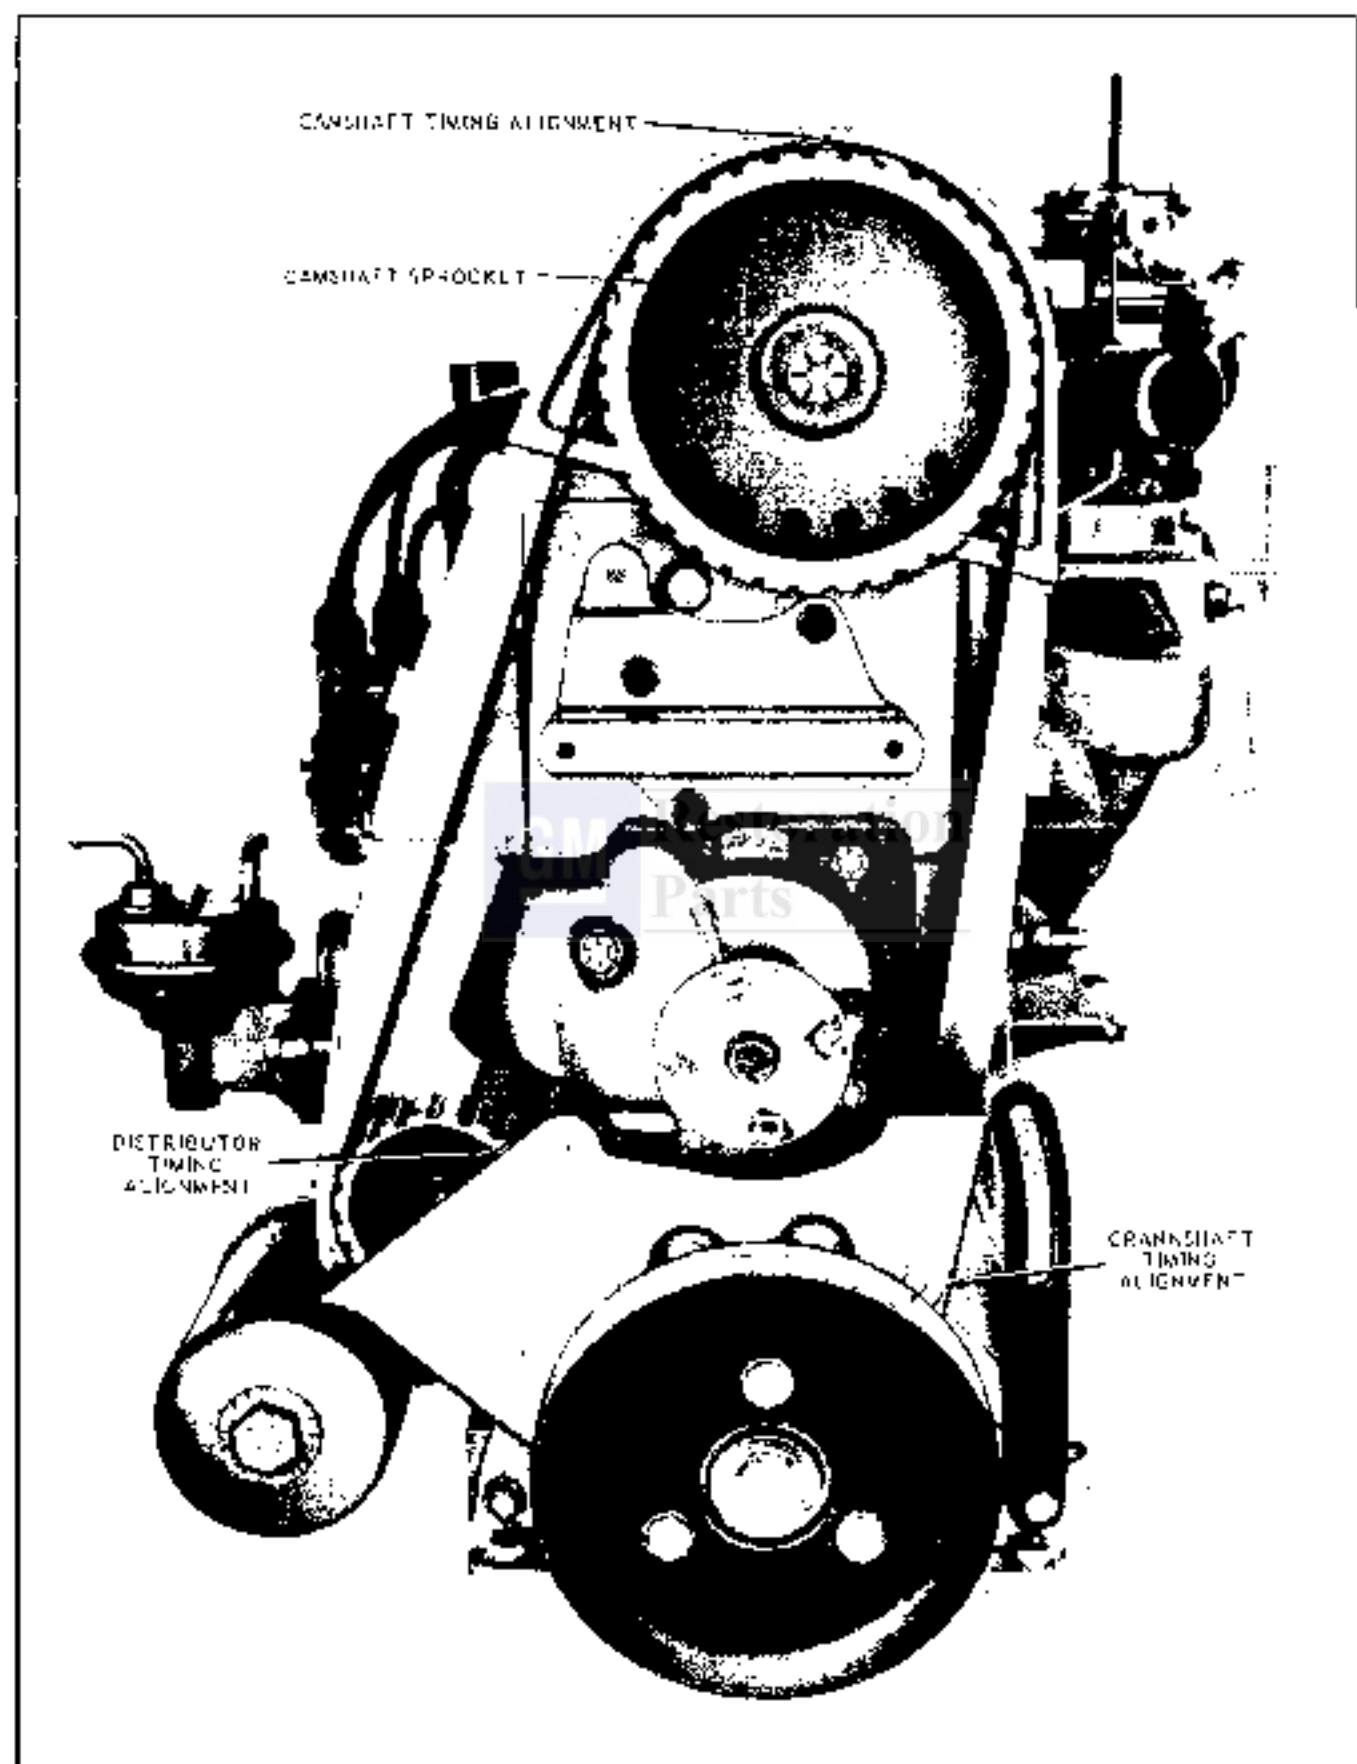

Fig. 6-7 Valve Timing Marks
2. Remove sprocket to camshaft retaining bolt (Fig. 6-7).
NOTE: *For ease of reassembly, index three timing marks as shown in Fig. 6-7.*